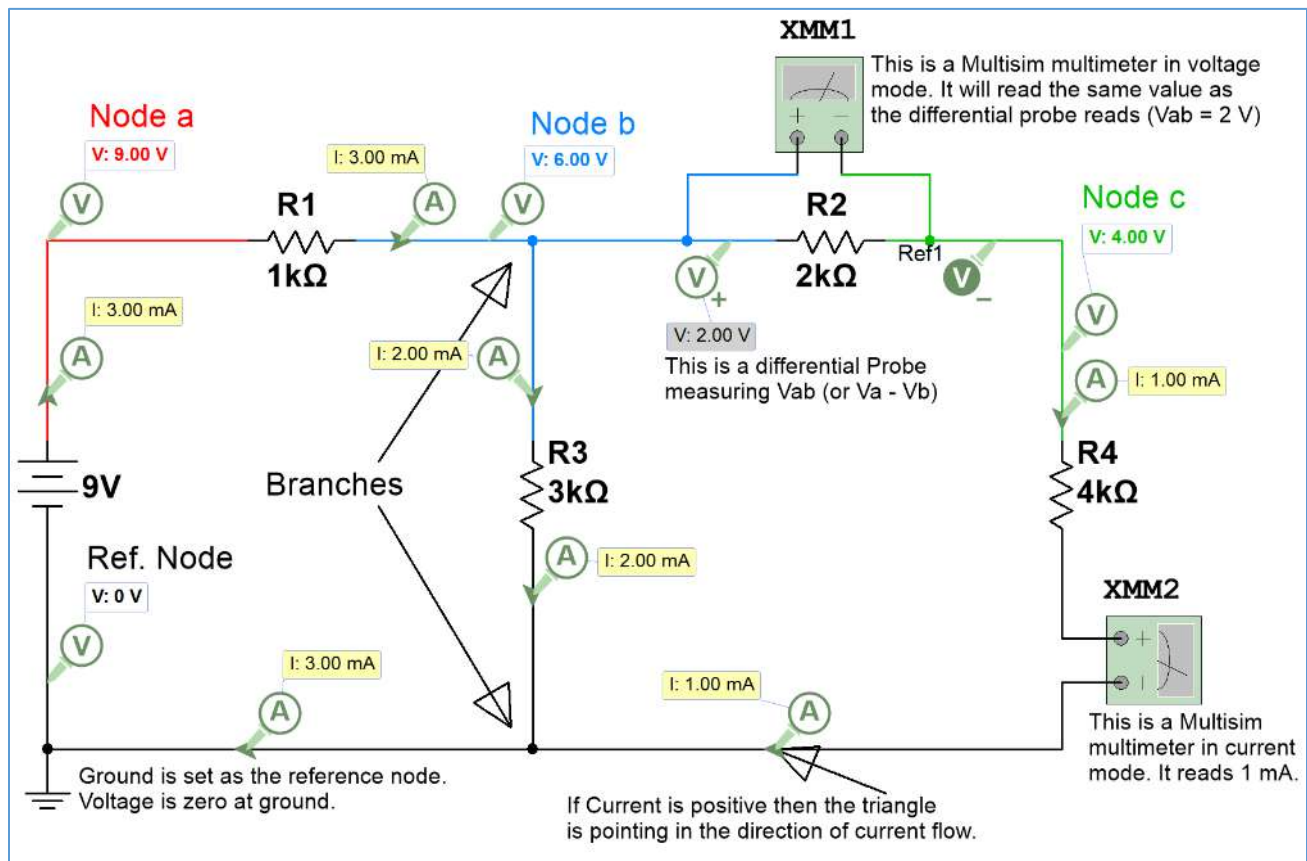
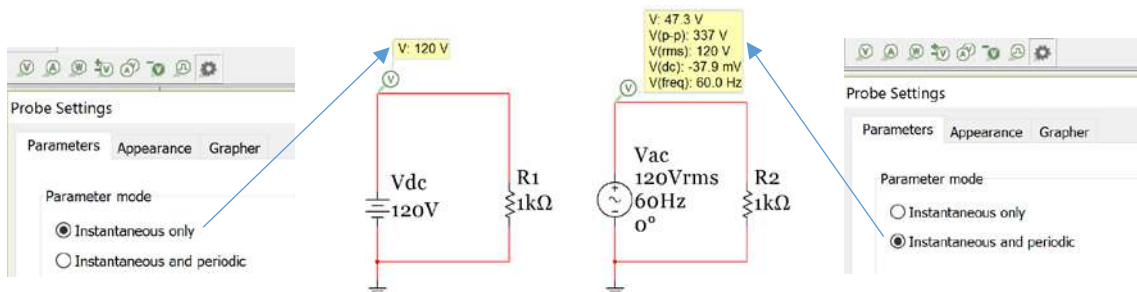
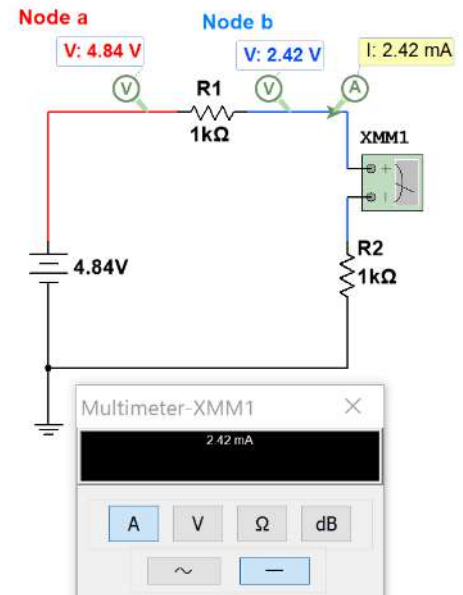

Figure 1.7: Circuit showing probes, Multimeters, branches, and nodes.
Figure 1.7a: Preferred probe settings for DC circuits (Left) and AC circuits (Right).
Figure 1.8: Circuit showing current measured with a Multimeter.
Before discussing current let's look at some statements about voltage. Figure 1.7 provides some visual explanations to these statements.
- Voltage is the same at all points on a node (a place shared by 2 or more circuit elements). For example, the blue line that represents Node b in Figure 1.7 is 6 V at every point on the blue line.
- When measuring voltage across one or more components with a Multisim Multimeter (see XMM1) you wire two different nodes to the + and – terminals and then double click on the meter and put it in Volts mode (V) and DC mode (straight line). XMM1 reads the voltage value across R2, which is also the value of Vab. Vab is the difference between node voltages Va and Vb. Vab is an example of **double subscript notation** ($V_{ab} = V_a - V_b$). Va is an example of **single subscript notation**. Va is the voltage at node a, and the reference is ground. When ground is not the reference for the measurement differential probes can be used to measure the voltage difference between nodes.
- Current doesn't change as it runs through components until it is split in a branch (see Figure 1.7). Voltage doesn't change at a branch unless it goes through a circuit element.
- When measuring current with a Multisim Multimeter (see XMM2 in Figure 1.7) you have to break the circuit and run it through the meter and then double click on the meter and put it in Amps mode (A) and DC mode (straight line). The same process is used to measure the current with an actual Multimeter as shown in Figure 1.8.
Note: In Figure 1.7 all of the probes only have I and V, but when the current and voltage probes are normally placed in Multisim the “Instantaneous and periodic” probe setting is the default so you will see 5 voltage measurements (as shown in Figure 1.7a). From top to bottom these voltage measurements are: 1-Instantaneous, 2-peak to peak (V_{pp}), 3-Root-Mean-Square (V_{rms}), 4-average (V_{avg}), and the 5-frequency. The average voltage is labeled V(dc) in the Multisim probe because V_{avg} is equivalent to the DC value. The instantaneous voltage is the value at a specific time and will continuously change as the AC current flows through the circuit. These four **additional parameters** for voltage or current are only used for AC circuits. When dealing with DC circuits there is only one type of voltage and current so only the instantaneous measurements are needed. To get only the DC current or voltage click on the probe settings and change the default to “Instantaneous Only” as shown in Figure 1.7a.
The circuit in Figure 1.8 shows a simple circuit with two resistors in series with a battery pack that has three AA batteries in it. You can see how one end of one of the resistors is pulled out of the breadboard to break the circuit and allow current to be measured with the Multimeter.
Example 1.8) using equation 1.6 solve for the current flowing through the R_1 resistor in Figure 1.8.
Answer: Applying equation 1.6 to the circuit in Figure 1.8 yields: